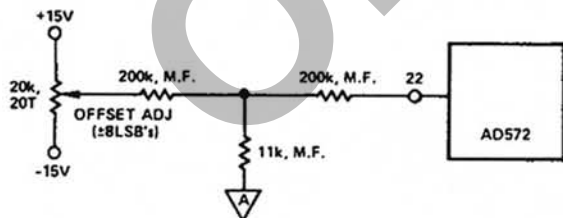
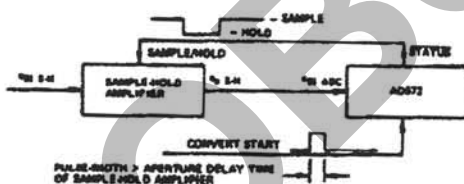
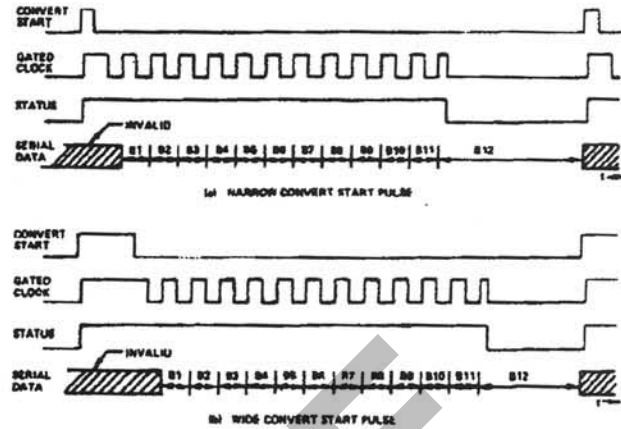

Figure 6. Low Tempco Zero Adj Circuit
Figure 8. Sample-and-Hold Amplifier - AD572 Interconnections
Figure 9. Effect of Convert Start Pulse-Width on Timing
An alternate offset adjust circuit, which contributes negligible offset tempco if metal film resistors (tempco < 100 ppm/°C) are used, is shown in Figure 6.
When the analog signal source has a low impedance (as would be the case if it were the output of the sample-and-hold amplifier of Figure 8), it can be connected to either of the direct input pins 24 and 25. The buffer follower is used in the application as shown in Figure 6, in which the analog input to the converter comes directly from the output of a FET analog multiplexer. The selected channel has a typical  $r_{on} = 200 \Omega$  which has a 3000 ppm/°C tempco. If the multiplexer output were connected to the 0 to +10 V direct input Pin 24 (5 k $\Omega$  input impedance, nominal), this  $r_{on}$  would introduce a 4% gain scale-factor loading error, which is well beyond the normal  $\pm 0.25\%$  FSR external gain adjustment range, and a tempco of approximately 3000 ppm/°C  $\times$  4% = 120 ppm/°C. By connecting the buffer between the multiplexer output and direct input, these errors are eliminated. The buffer amplifier input bias current (50 nA typical) must flow through the analog signal source, however. This limits the upper practical source impedance to several kilohms so that the offset voltage  $I_{BIAS} R_{SOURCE}$  can be kept negligible, even though the buffer amplifier dynamic input impedance  $\geq 100 M\Omega$ . The buffer amplifier has a 2  $\mu$ s settling
**Sample-and-Hold Amplifier:** A sample-and-hold amplifier (SHA) is normally connected between the analog signal source and AD572 analog input when the analog signal can change by more than 1/2 LSB during conversion. Typical SHA-AD572 interconnections are shown in Figure 8. The STATUS output drives the SHA SAMPLE/HOLD input directly. On receipt of a CONVERT START pulse, the STATUS flag changes from "1" to "0" causing SHA mode to change from SAMPLE to HOLD. The SHA output voltage  $e_{o, S-H}$  is then held constant at the value existing just prior to application of the HOLD command for the complete conversion period. At the end of conversion, the STATUS flag returns to "1," restoring the SHA mode to SAMPLE,  $e_{o, S-H}$  again tracks the analog signal voltage  $e_{in, S-H}$  (after the signal acquisition transient has subsided).
Note that the internal (gated) clock is inhibited for the duration of the CONVERT START pulse and does not start running until the termination of this pulse (see timing). This can be used to simplify control signal timing requirements. In the circuit of Figure 8, for example, the CONVERT START signal pulse-width can be extended beyond the aperture delay time of the SHA to assure that  $e_{o, S-H}$  is in steady state before conversion is initiated. This assured accurate conversion without requiring additional delay timing circuitry. The effect of varying the CONVERT START pulse width on the conversion timing cycle is shown in Figure 9.